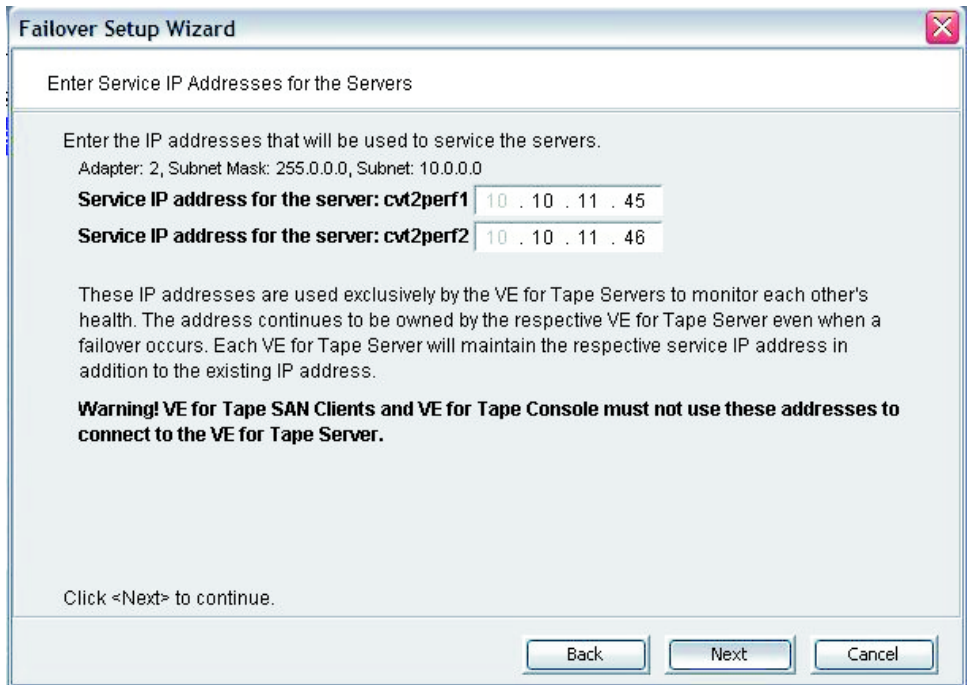

Figure 27. Entering or confirming service IP addresses for adapter 2
13. __ In the Enter Service IP addresses for the Servers (Adapter 2) window (Figure 27 on page 38):